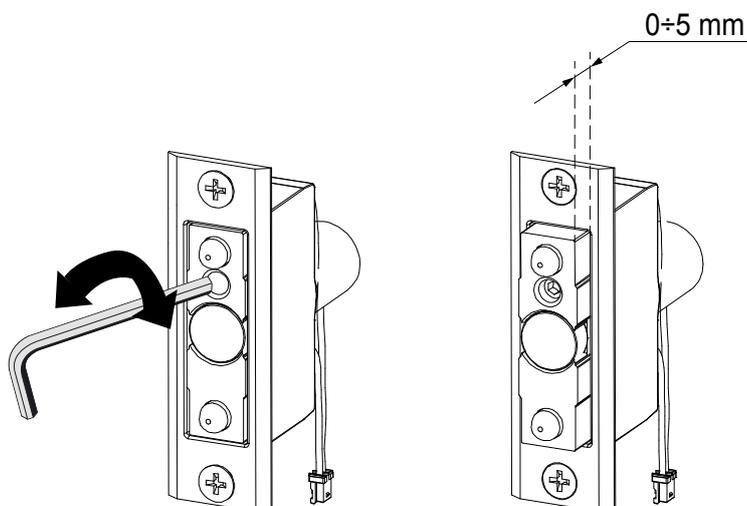

Fig. 2
3. By turning the adjusting screw, adapt the position of the door status device to the clearance between the door leaf and the frame (Fig. 2).